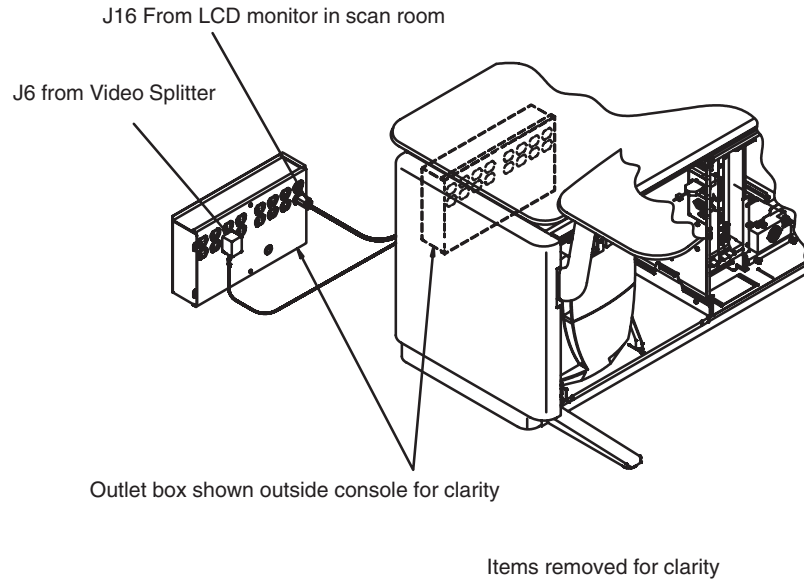
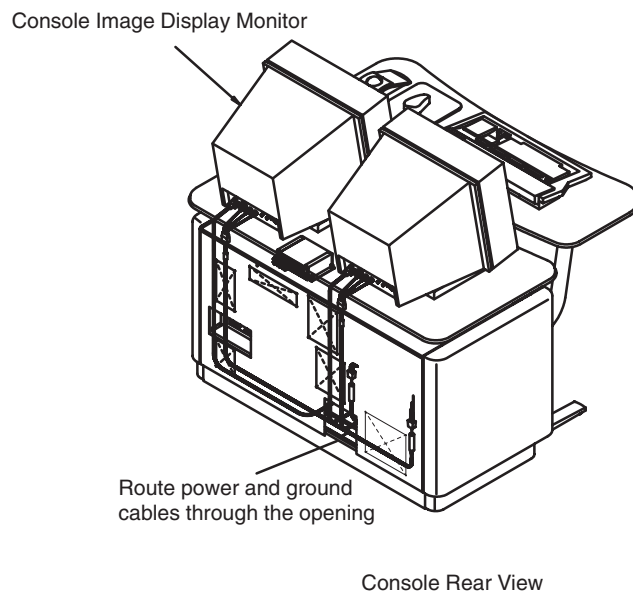
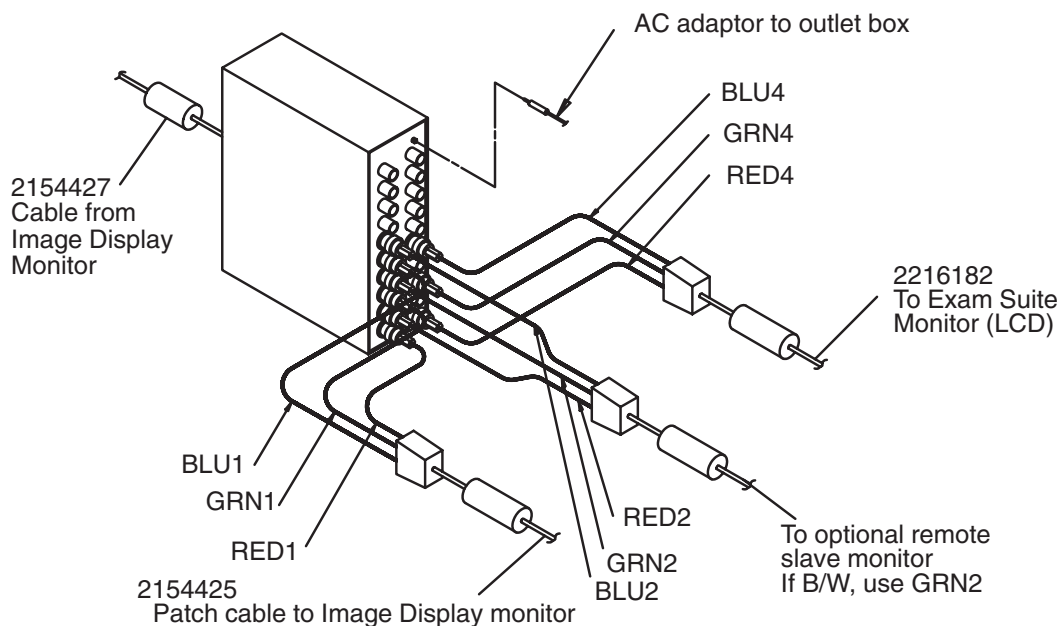

Figure 2-7 Operator Console Outlet Box
Figure 2-8 Rear View of Console
Figure 2-9 Connect LCD Video Cable to the 4-Way Video Splitter
- 7.) Refer to Figure 2-7.
- 9.) Refer to Figure 2-7, Figure 2-8 and Figure 2-9.
- c.) Route the LCD video cables to the Operator Console. Connect them to the video splitter, as shown in Figure 2-9.